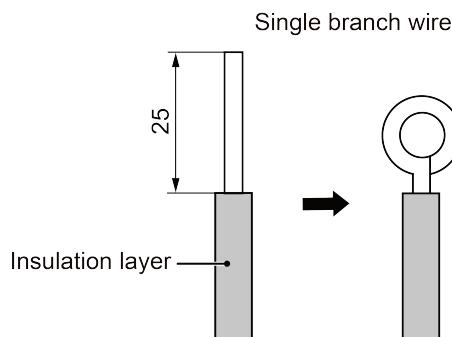

Fig 5.1.1
- (1) The connection of wire (as shown in fig 5.1.1).